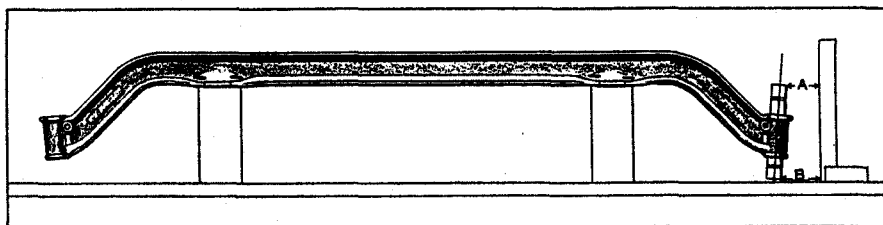

Fig. 106. Front Axle Inverted for Testing Angles
This may be tested by inserting the spindle bolts in their holes and placing the axle upside down upon parallel bars under the spring seats, (See Fig. 106). Then with a square, take dimensions (A) and (B) at the ends of the bolt. The difference between (A) and (B) should be $\frac{5}{8}$ inch.